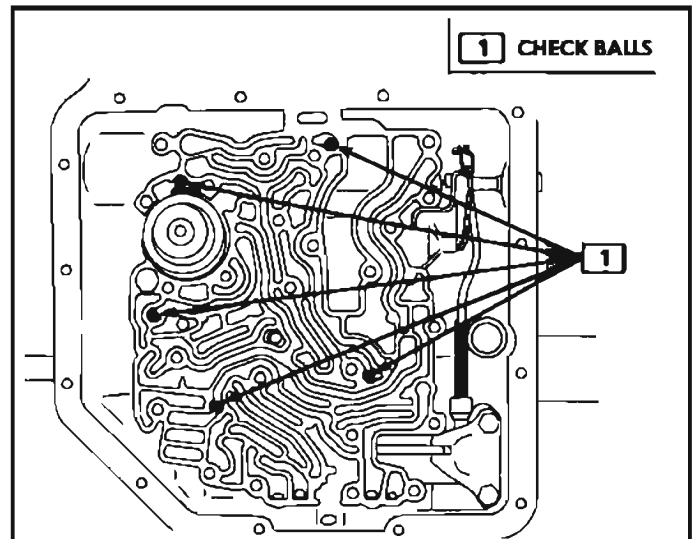

Figure 23 Check Ball Locations
20. Remove 5 check balls. Note the locations of check balls. *See Figure 23.*